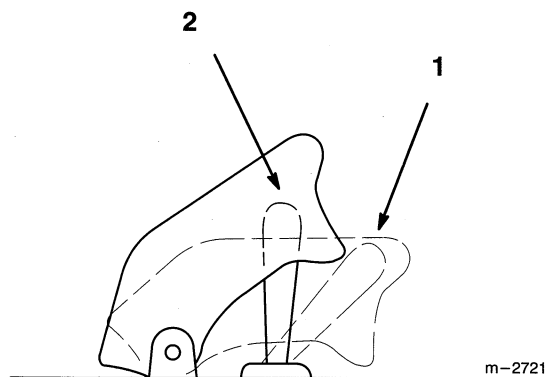

Figure 15
3. To engage lift cover and move the PTO switch to the "ON" position (Fig. 15).
1. Closing the cover moves the PTO switch to the "OFF" position (Fig. 15).